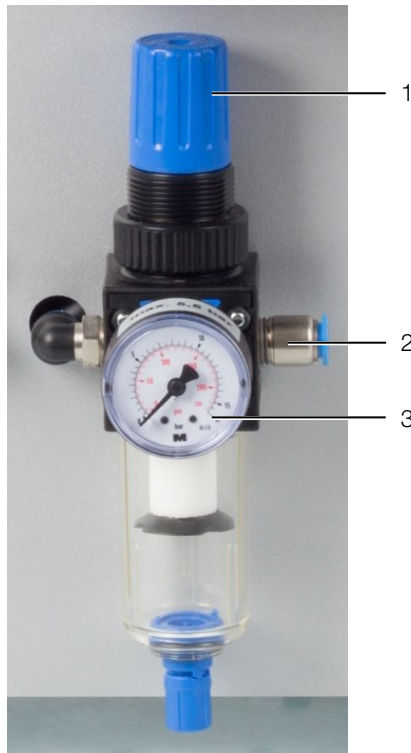

Fig. 4: Establishing connections
- First connect the compressed air hose to the compressed air maintenance unit of the machine (fig. 4, item 2).
- Check the manometer display (fig. 4, item 3).
- If necessary readjust the operating temperature. To do this, pull the adjusting screw (fig. 4, item 1) upwards and turn it carefully: